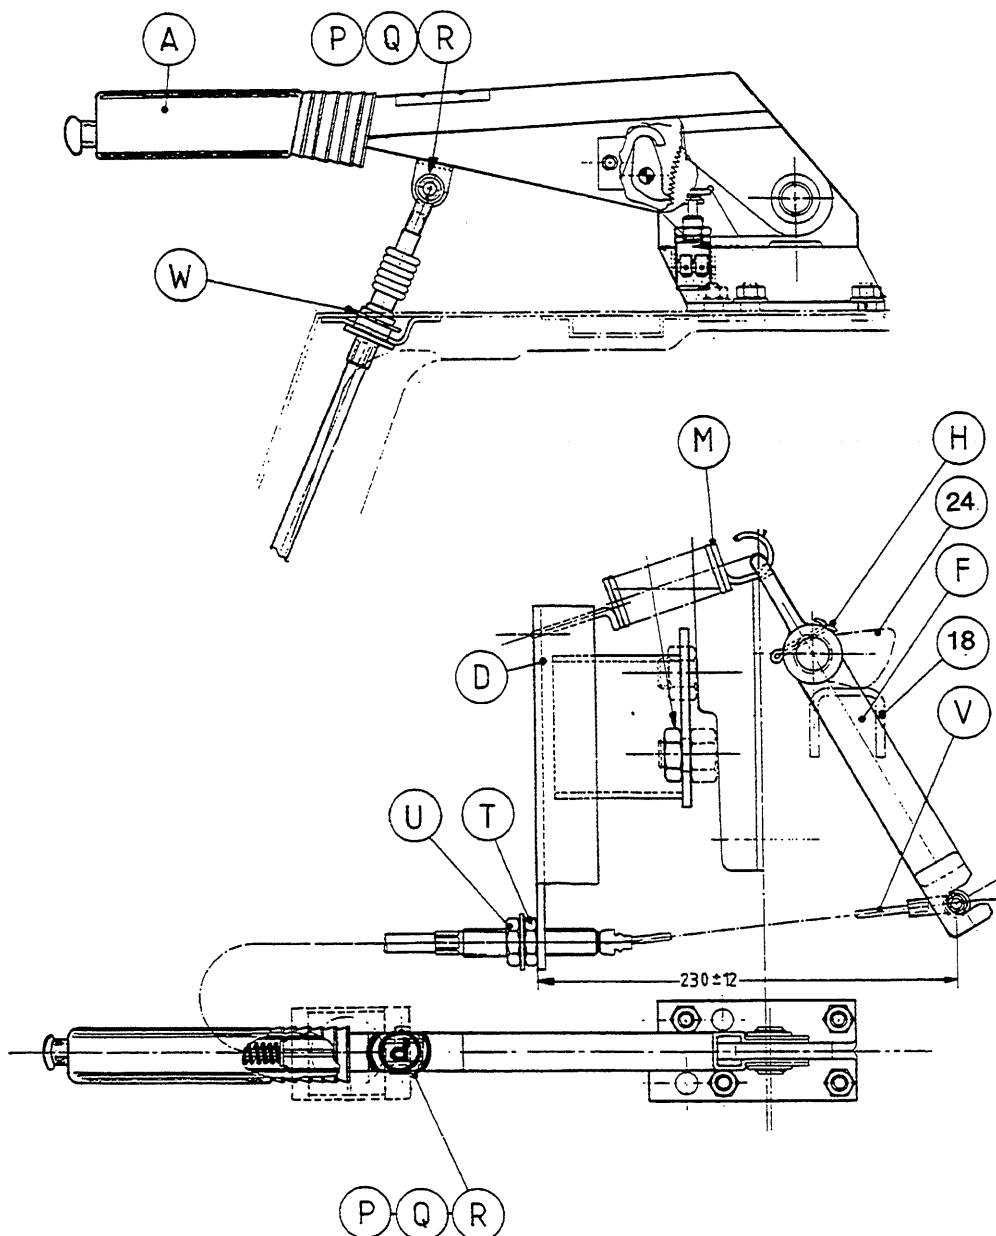

Fig. 3
- Feed the cable (V) from below towards the inside of the cab and attach it with the circlip (W).
- Secure the cable onto the handle (A) when the brake is released, with the pin (P), washer (Q) and dowel (R).
- Insert the cable into the sheath stop (D).
- Fit the lever (F), complying with the dimension  $230 \pm 12$ , which corresponds to the handbrake released position, with the cam (24) pressing on the link (18).
- Attach the end of the cable (V) onto the lever (F).
- Position the spring (M) in accordance with the position indicated in Fig. 3. Adjust the nut (T) and lock the locknut (U).